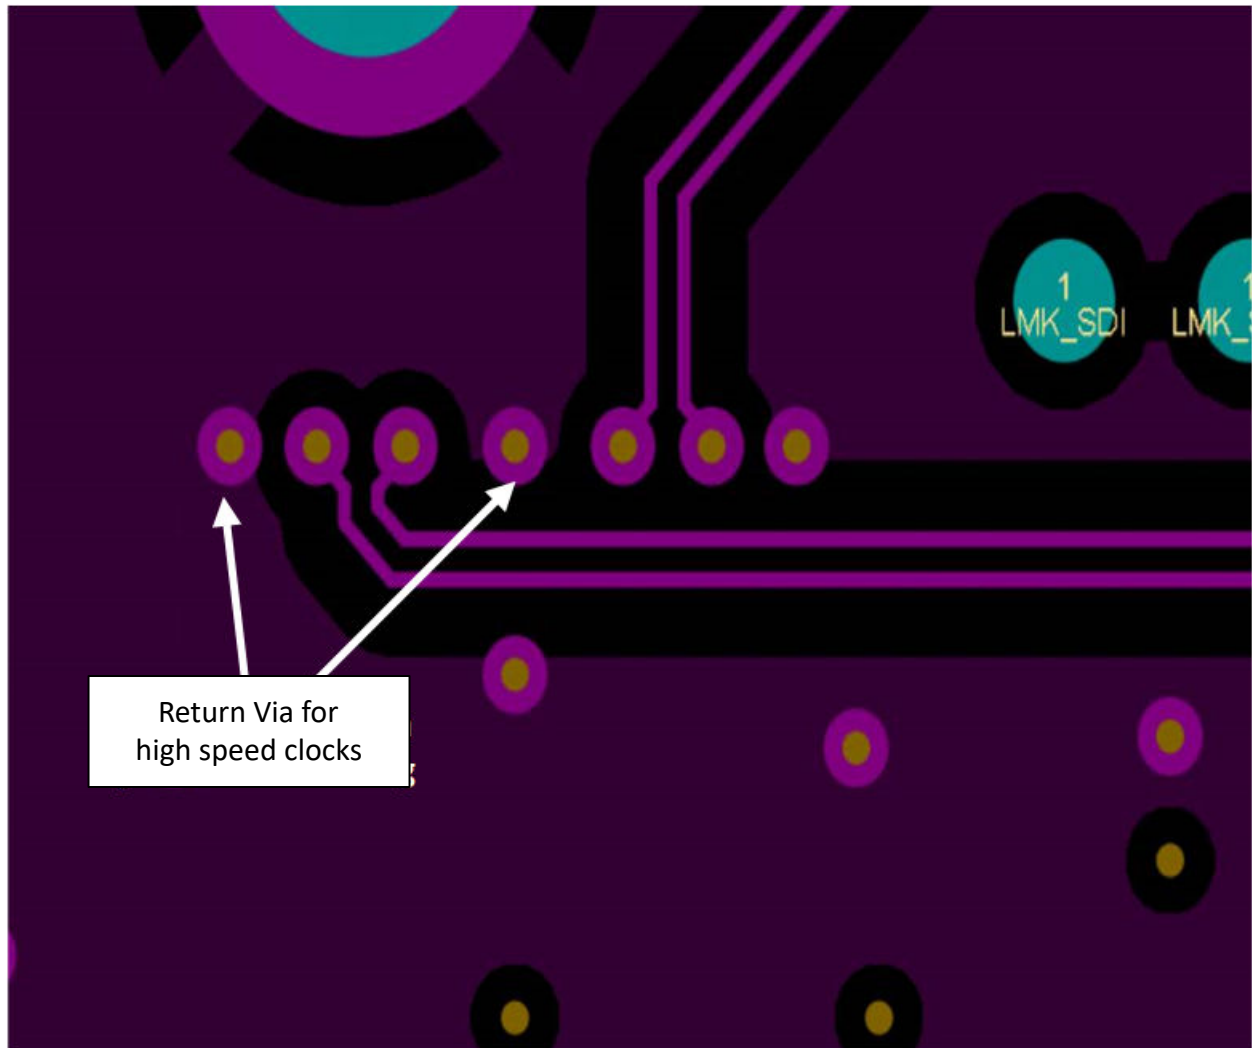
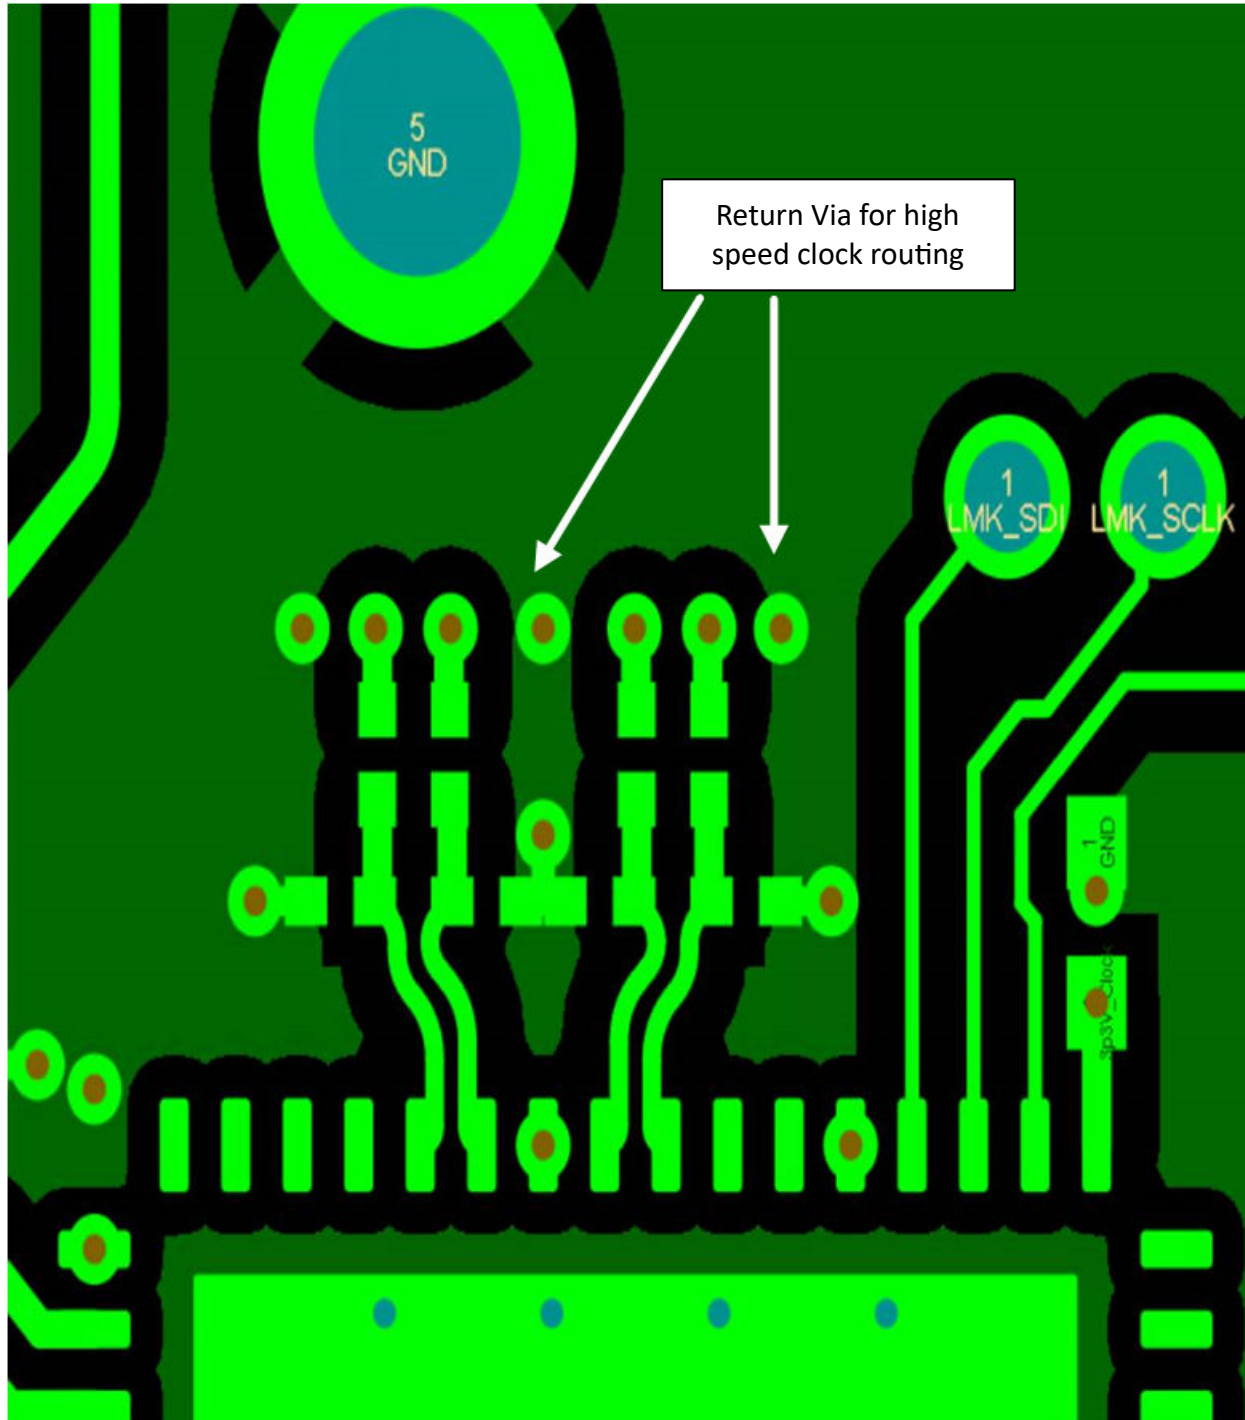

Figure 8-26. Return Vias for High Speed Clock
Figure 8-27. Return Vias for High Speed Clock Near Clock Generator
- ground return path. See Figure 8-26 and Figure 8-27 as examples.